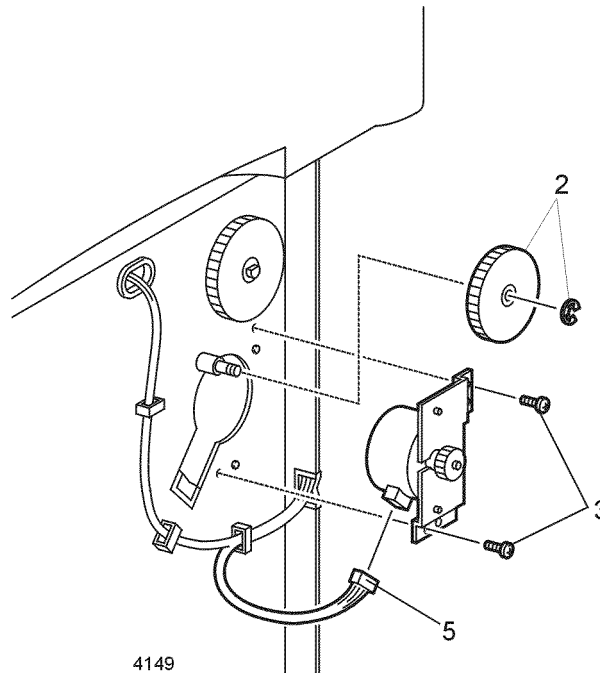

Figure 1 Paper Feed Motor Assembly
5. Disconnect P/J609 from the Feed Motor Assembly (Figure 1).